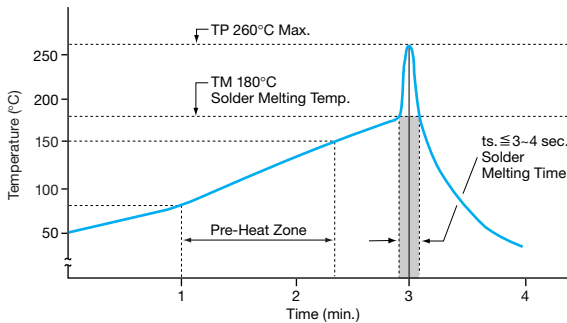
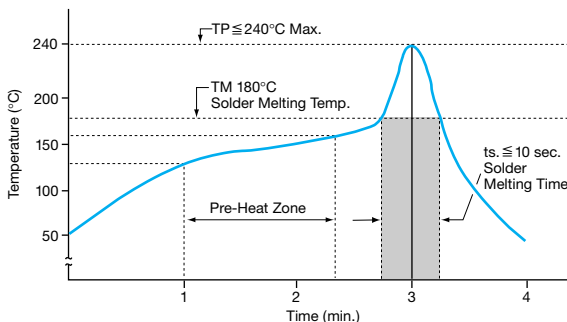

Figure 7: Example of Flow Soldering Temperature Profile For SMD Trimmers
Figure 8: Example of Reflow Soldering Temperature Profile For SMD Trimmers
1. Surface Mount Trimmers. For pre-heat time and temperature for surface mount trimmers and the specially designed G4C through-hole series, refer to the reflow and flow temperature profiles specified for individual trimmer series. A typical temperature profile is shown in *Figure 7*.
The recommended temperature profiles for flow and reflow soldering methods are specified under each series of SMD products. Examples of flow and reflow temperature profiles are shown in *Figure 7* and *Figure 8*.